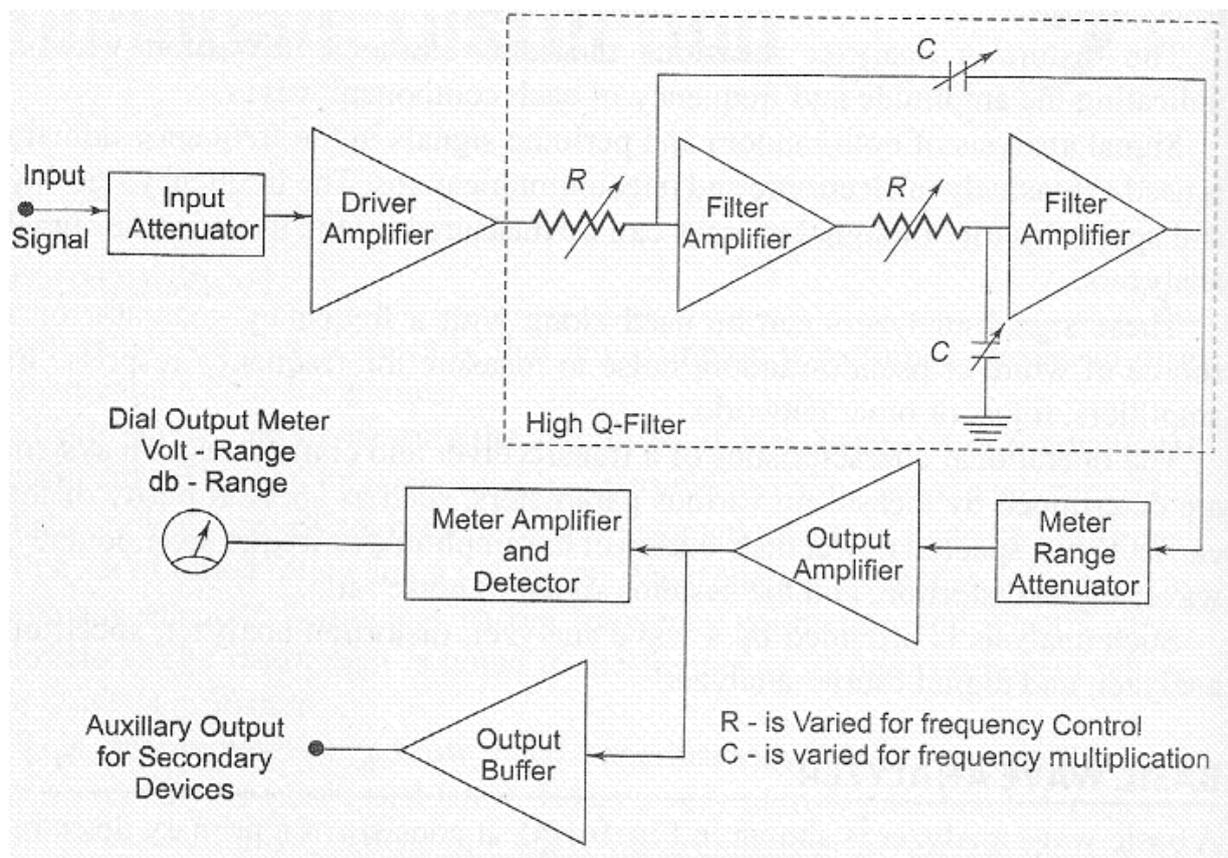

fig 1 Frequency wave analyzer
**ANS:** The wave analyzer consists of a very narrow pass-band filter section which can be tuned to a particular frequency within the audible frequency range (20Hz to 20 KHz). The block diagram of a wave analyzer is as shown in fig 1.